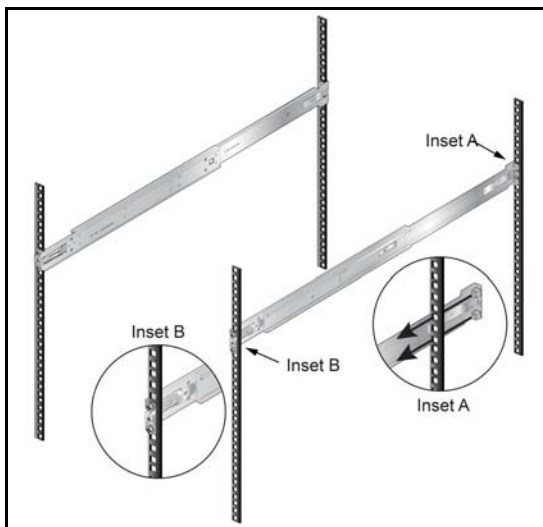

Figure 13: Attaching the Rails
- Step 1** Attach rail to the right rear rack post by inserting rod-end rack plugs into post slots (Figure 13, inset A). The slide assembly must be inside the right posts, relative to the left rack posts.
- Step 2** Attach the slide end of the rail to the front post by extending the rail end past the post, then contracting the rail while guiding the rack plugs into the post (Figure 13, inset B).